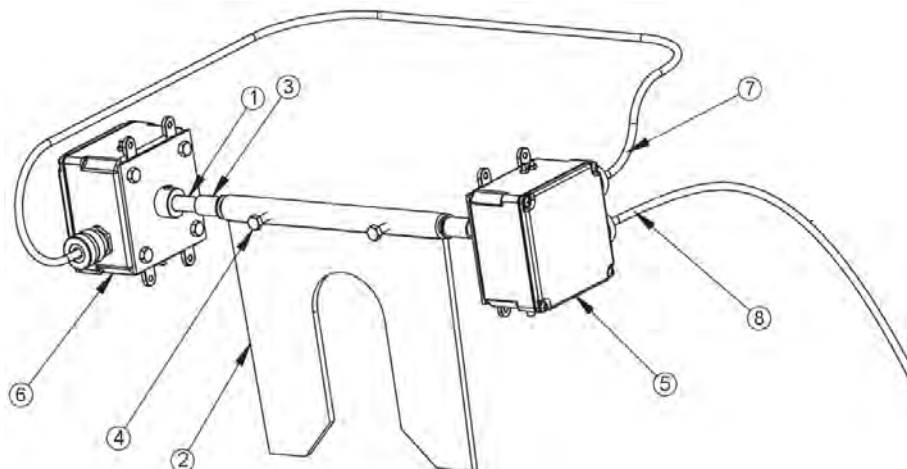

Fig. 4-1 & Table 1 – Grain level switches
2. Locate paddle switch boxes. See Fig. 4-1.
**IMPORTANT:** Switches must be installed as shown in Fig. 4-1. If not installed properly, dryer will not function correctly.